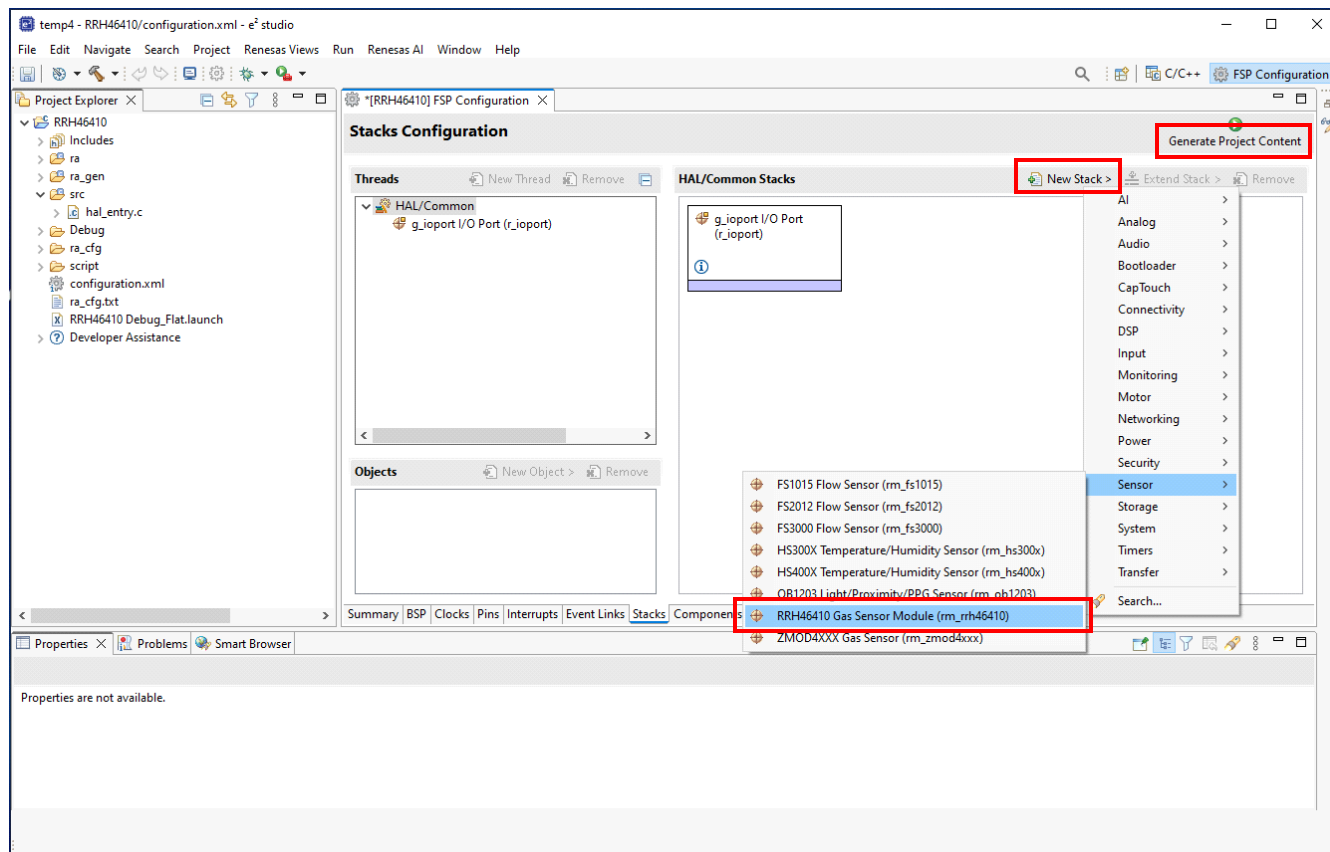

Figure 2. Stacks Configuration Window
- Add the following stack element by clicking the *New Stack* button and editing the configuration values for desired operation (see Figure 2).